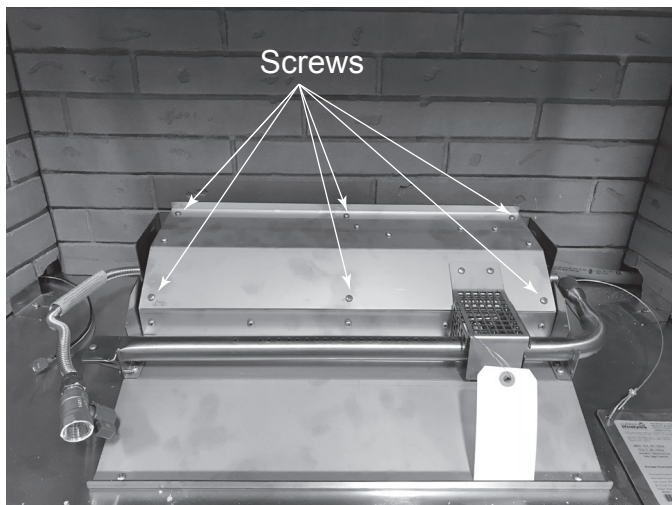

Figure 3.9 Remove Access Cover
- **Remove** (6) screws securing top access cover. See Figure 3.9.